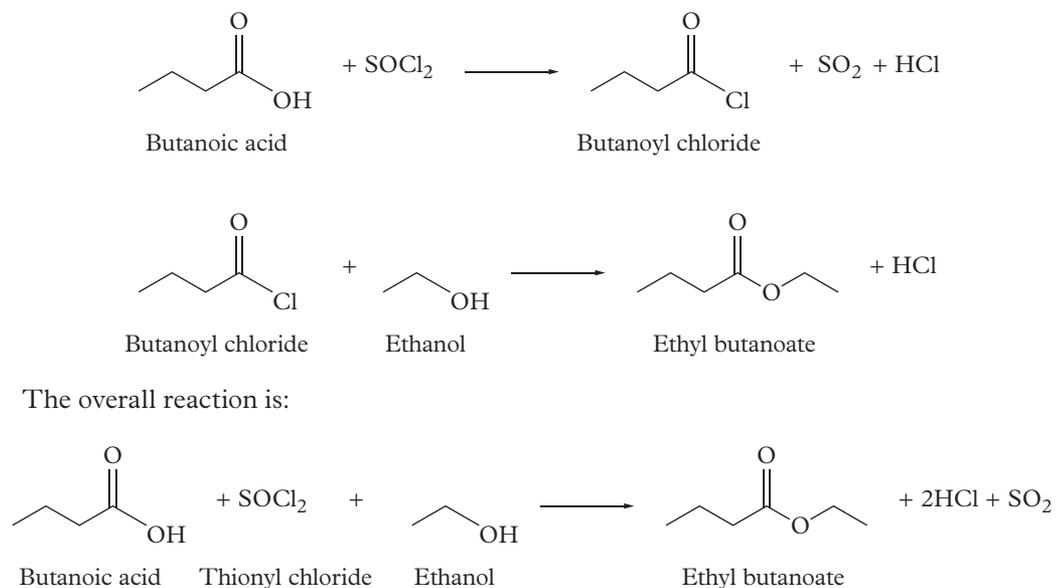

FIGURE 2 The reaction for the production of ethyl butanoate from butanoic acid has two steps.
When a reaction consists of multiple steps, you can combine the step-reactions to give one overall reaction and calculate the atom economy for that reaction. For example, the production of ethyl butanoate – an ester that is used as an artificial flavouring – can be accomplished in two steps from butanoic acid (Figure 2).
- 4 Phenol is made industrially mainly by the cumene reaction pathway (Figure 3). This is a highly efficient reaction, with typical experimental yields of 90%, based on benzene. **Analyse** the reaction pathway in Figure 2 and report the percentage atom economy. Based on the yield given, what is the percentage of the mass of reactants that makes it into the phenol product?